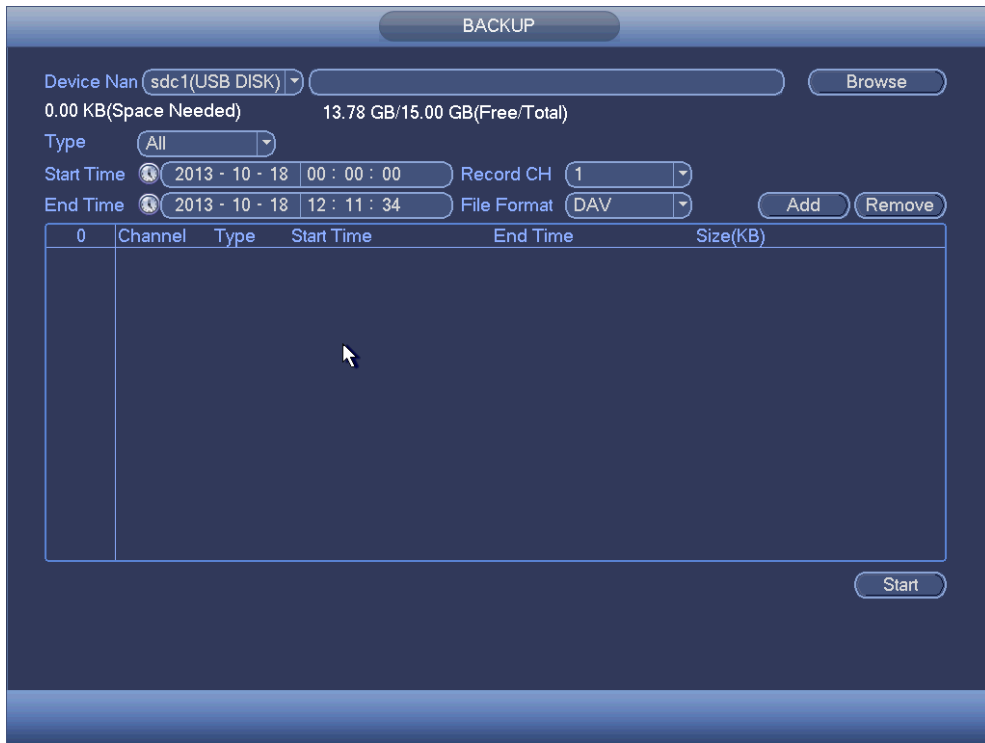

Figure 4-76
- From Main menu->Backup, you can go to the Backup interface. See Figure 4-76